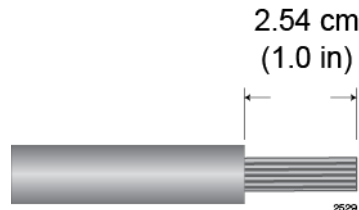

Figure 119. Stripping the solid or Stranded Grounding Wire
1. Prepare an adequate length of solid or stranded 10 AWG grounding wire by stripping it as shown in Figure 119.